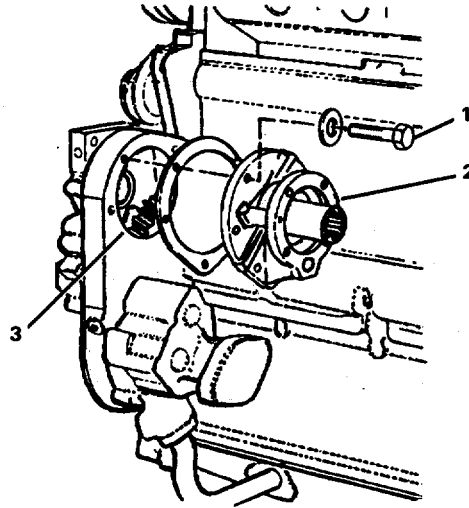

FIGURE 3-45. Removing Accessory Drive.
- f. Remove five capscrews (1, FIGURE 3-45) and transmission power takeoff assembly (2) from rear of gear housing.
- g. Remove all of the old gasket material (3) from sealing surface.